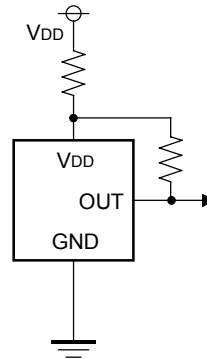

Figure 10
- Wiring as shown in Figure 10 may cause the oscillation in both output types of R3113 Series.